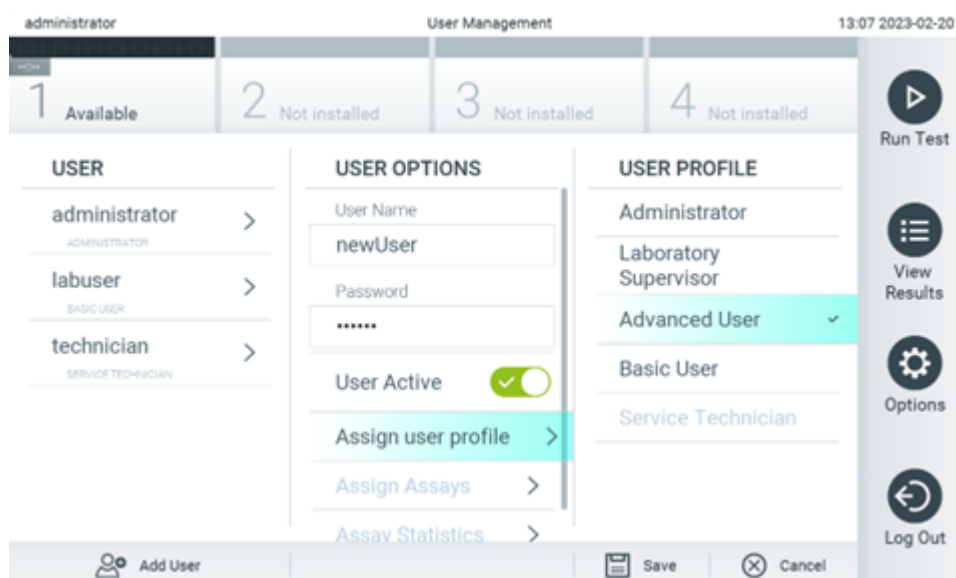

Figure 56. Assigning a user profile to a new user.
4. Press **Assign User Profile** and assign the appropriate user profile (from the **User Profile** list on the right of the content area) to the new user (Figure 56).